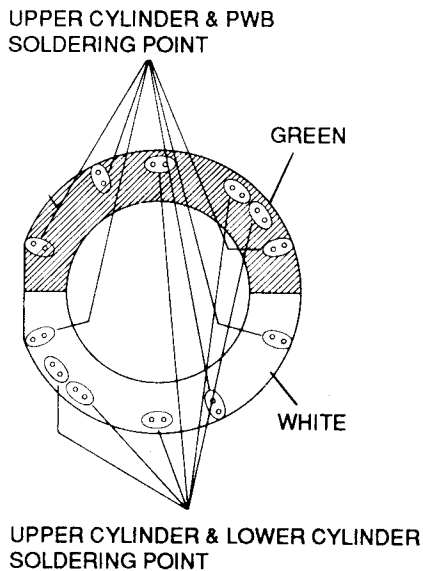

Fig. 14 PWB Upper Cylinder Top View
1. Remove two (2) screws ① from the upper cylinder ass'y ③.
2. Unsolder the PWB-Upper cylinder ② from the upper cylinder ass'y ③ and remove the upper cylinder ass'y ③ from the cylinder ass'y. (See Fig. 14)